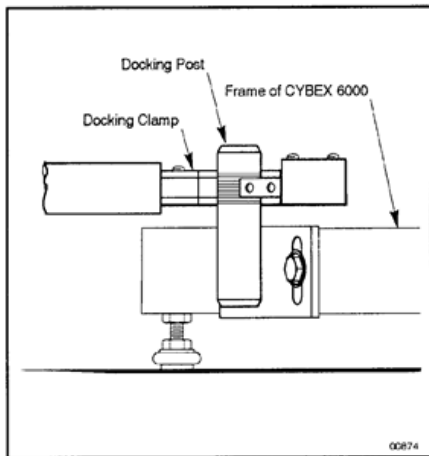

Figure 4-3 Docking Clamp and Post
7. Position the TEF Modular Component docking clamp against the docking post. Position the plate so that there is an even amount of grooved area on the post above and below the clamp. (See Figure 4-3.) Adjust plate up or down as needed. With a 1/2" wrench, fully tighten the two hex head screws.